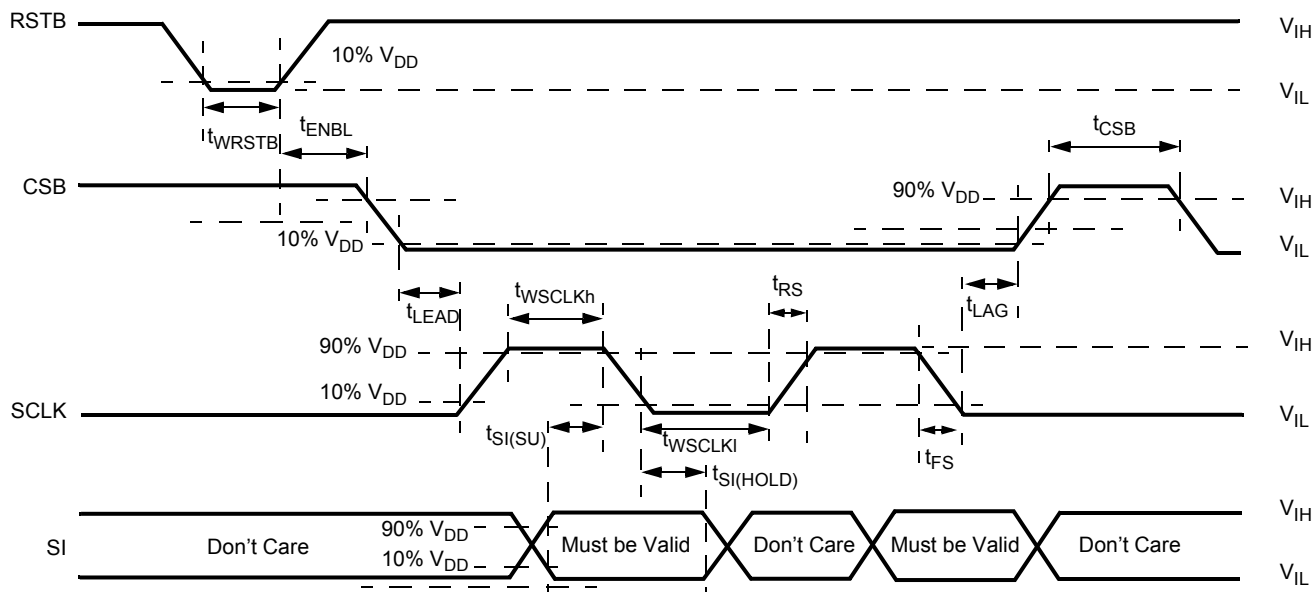
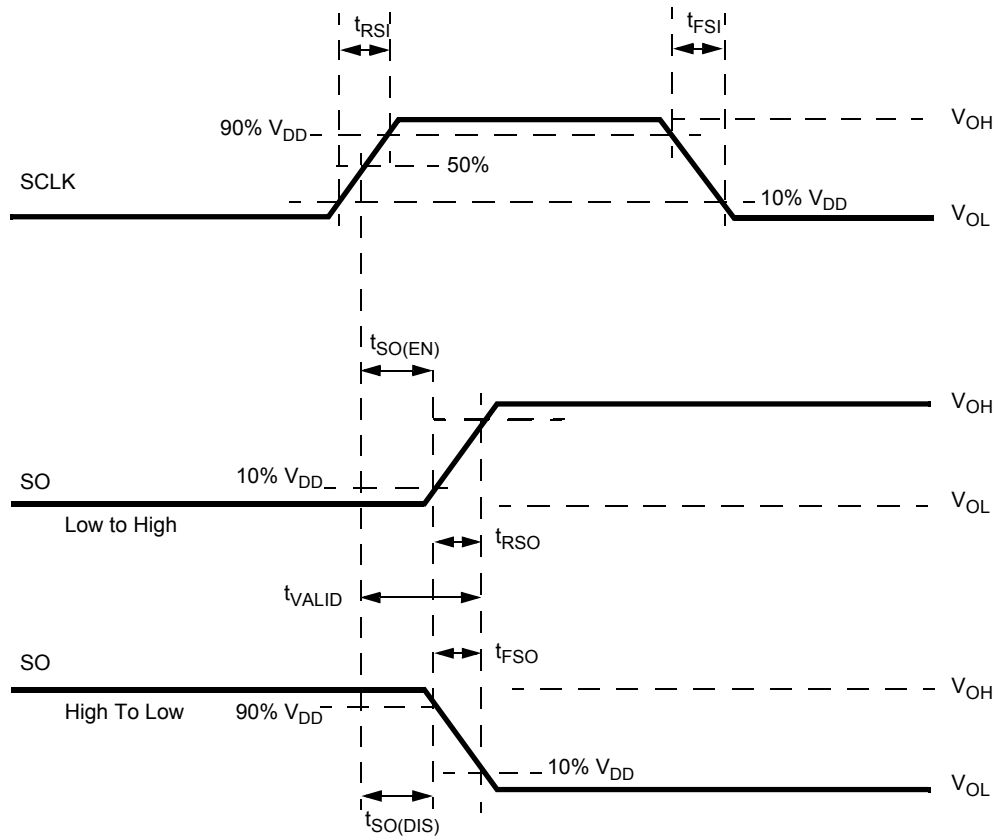

Figure 7. Timing Requirements During SPI Communication
Figure 8. Timing Diagram for Serial Output (SO) Data Communication
edge of CSB. The SO output driver is enabled when CSB is logic [0]. CSB should transition from a logic [1] to a logic [0] state only when SCLK is at logic [0]. CSB is internally pulled up to  $V_{DD}$  through  $I_{UP}$ . (see Figure 7 and Figure 8).
Serial input (SI) data bits are shifted in at this pin. SI data is read on the falling edge of SCLK. 16-bit data packages are required on the SI pin (see Figure 7), starting with bit D15 (MSB) and ending with D0 (LSB). All the internal device registers are addressed and controlled by a 4-bit address (D9-D12) described in Table 11. Register addresses and function attribution are described in Table 12. The SI pin is internally connected to a pull-down current source,  $I_{DWN}$ .